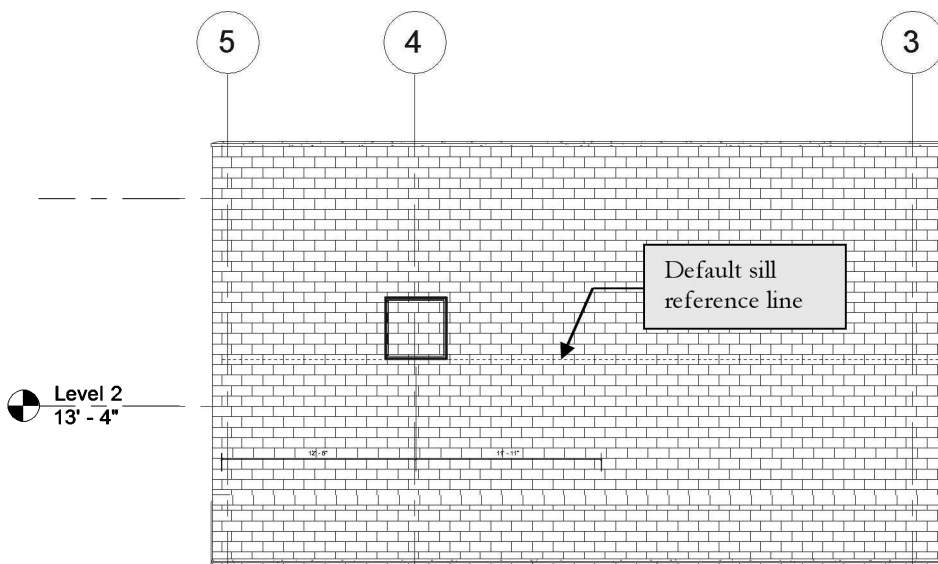

FIGURE 10-1.13 Placing a window on the North elevation
27. Place a window as shown in **Figure 10-1.13**: